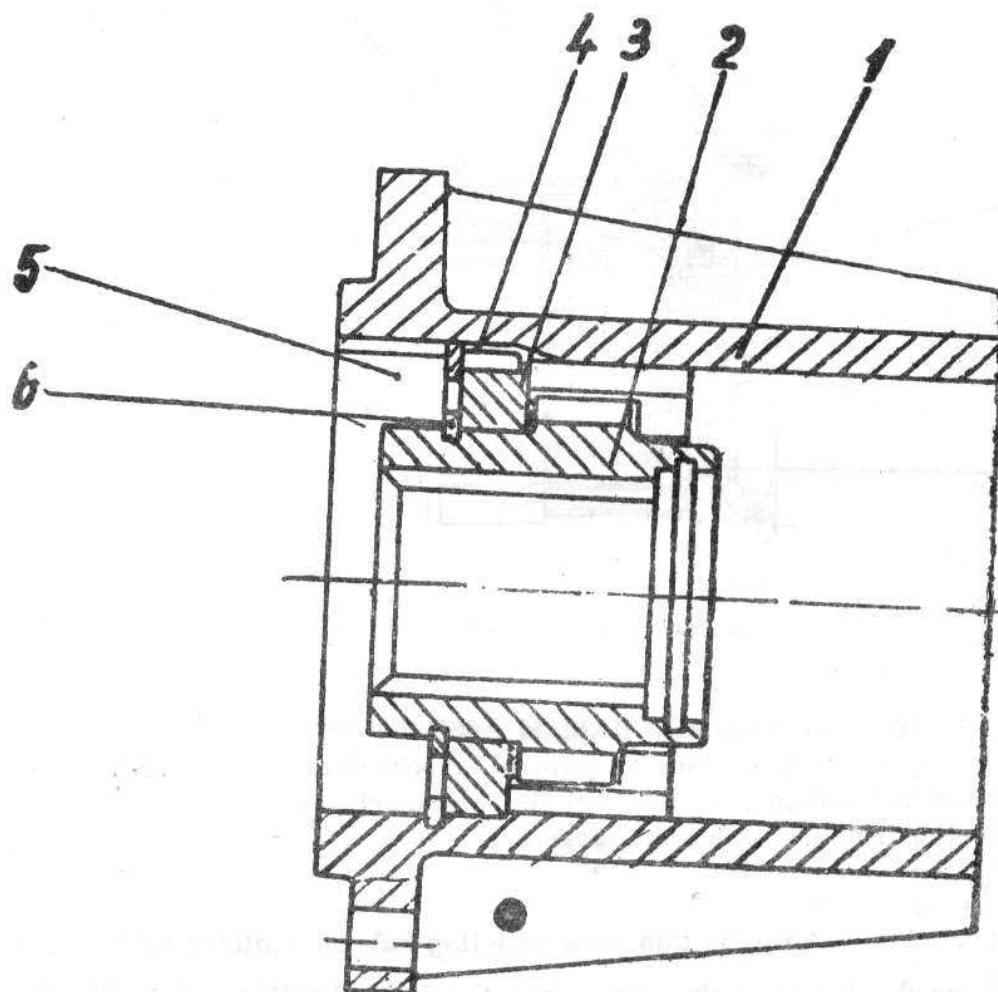
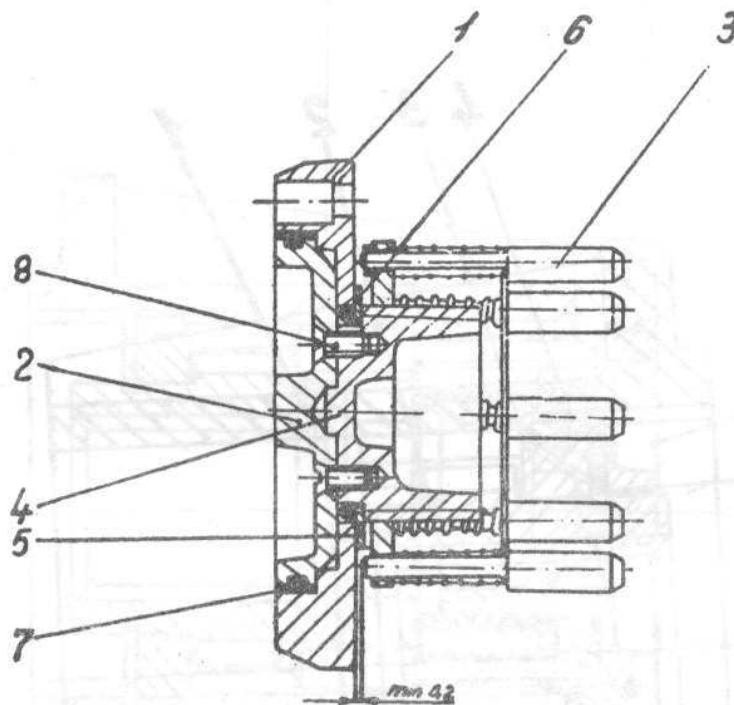

Fig. 4.125. FREE WHEELING HUB MECHANISM BODY ASSY.
Fig. 4.126. CONTROL MECHANISM ASSY
- The hub body (1)
- Slotted hub (2)
- Bronze bushing, immobilized in the hub by a parallel key (4) - see Fig. 4.125 - and a hub locking ring (5).
- Wheel driving mechanism, (see Fig. 4.126), consisting of;
- Engaging mechanism (3)
- Threaded bushing (4)
- Control disc (2)
- Cover and its fastening elements (1).
- For replacing the slotted hub (2) - see Fig. 4.125 - remove from the hub groove the lock ring (6), using adequate pliers and remove the hub.
- For removing the threaded bushing remove from the hub body groove the lock ring (5) and the parallel key, (see Fig. 4.125).
- Fit firstly the slotted bushing and the key in the hub body, securing it with the lock ring (5).
- After securing the bushing fit over it the friction washer (5) - see Fig. 4.126 and fit the slotted hub inside the bushing, securing it with the lock ring (6) - see Fig. 4.125 -, using an adequate pliers.
- before fitting the cover (1) and control disc (2) smear the surfaces for O-ring seals with above mentioned grease.
- Fit the threaded bushing collar, the washer and the O-ring seal (see Fig.4.126).
- Smear with UM 175 Li Ca Pb 3 grease (or equevalent one) the driving mechanism fingers of the hub fitted inside the hub body (1) - see Fig. 4.125.